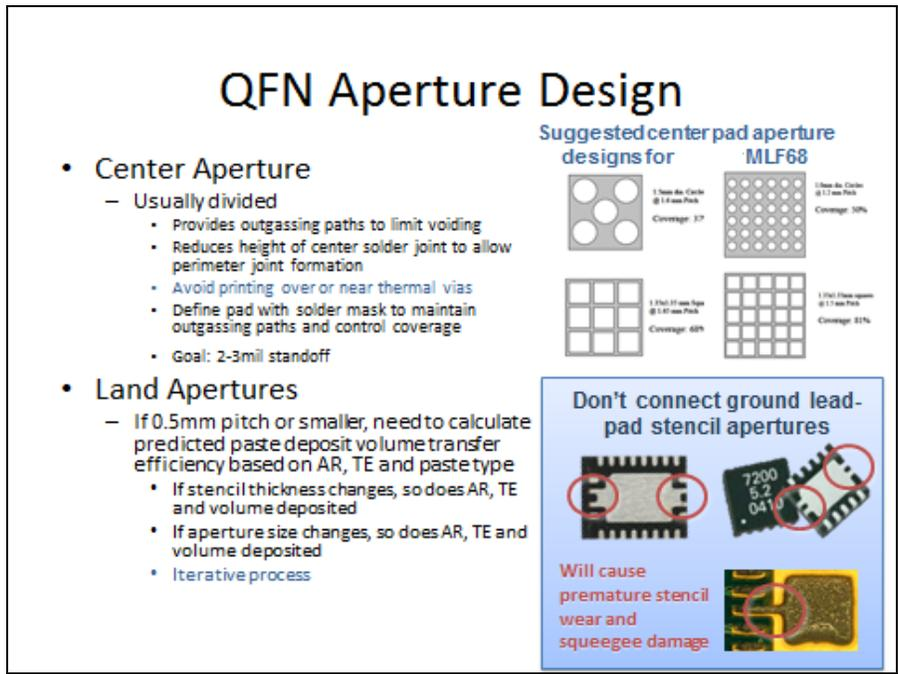

Figure 4. BTC aperture design considerations⁴
QFNs or other bottom termination components are often the driver behind stepped stencils, because many of them require small apertures on 0.5mm pitch. These components are becoming increasingly popular because they are economical and reliable.³ In addition to sometimes requiring stepped down stencil areas, they also need special attention to the center pad, often used for heat sinking or grounding. If insufficient paste is applied to the pad, its efficiency is reduced. If too much solder paste is applied, the component can tilt or float, creating opens or unreliable solder joints. If thermal vias are in the pad, they can rob paste from the bond and cause voiding. Additionally, the flux in the solder paste will also cause voiding on this pad. Therefore, it is important for the stencil designer to divide the center pad apertures to ensure proper standoff (2-3mils preferred), maintain outgassing paths to limit voiding, and avoid printing over thermal vias. Some examples of BTC aperture design are shown in Figure 4.
Stainless steel (SS) is the material of choice, except when special circumstances dictate nickel, and emerging SS alloys may soon rival nickel in hardness and durability.⁵ Standard SS is the least expensive option, but can be prone to thickness variations, inclusions or other flaws in the material, and warping or bowing in reaction to the heat generated by laser cutting. Premium SS manufactured specifically for SMT stencils is typically precision-rolled to maintain very tight thickness tolerances and stress relieved to prevent distortion from the heat of cutting. For higher performance, Fine Grain (FG) SS is also precision rolled and stress relieved, but it reduces the typical grain size by an order of magnitude (figure 4). The finer grains produce smoother stencil walls and crisper steps. Many high precision stencil printing processes depend upon it.